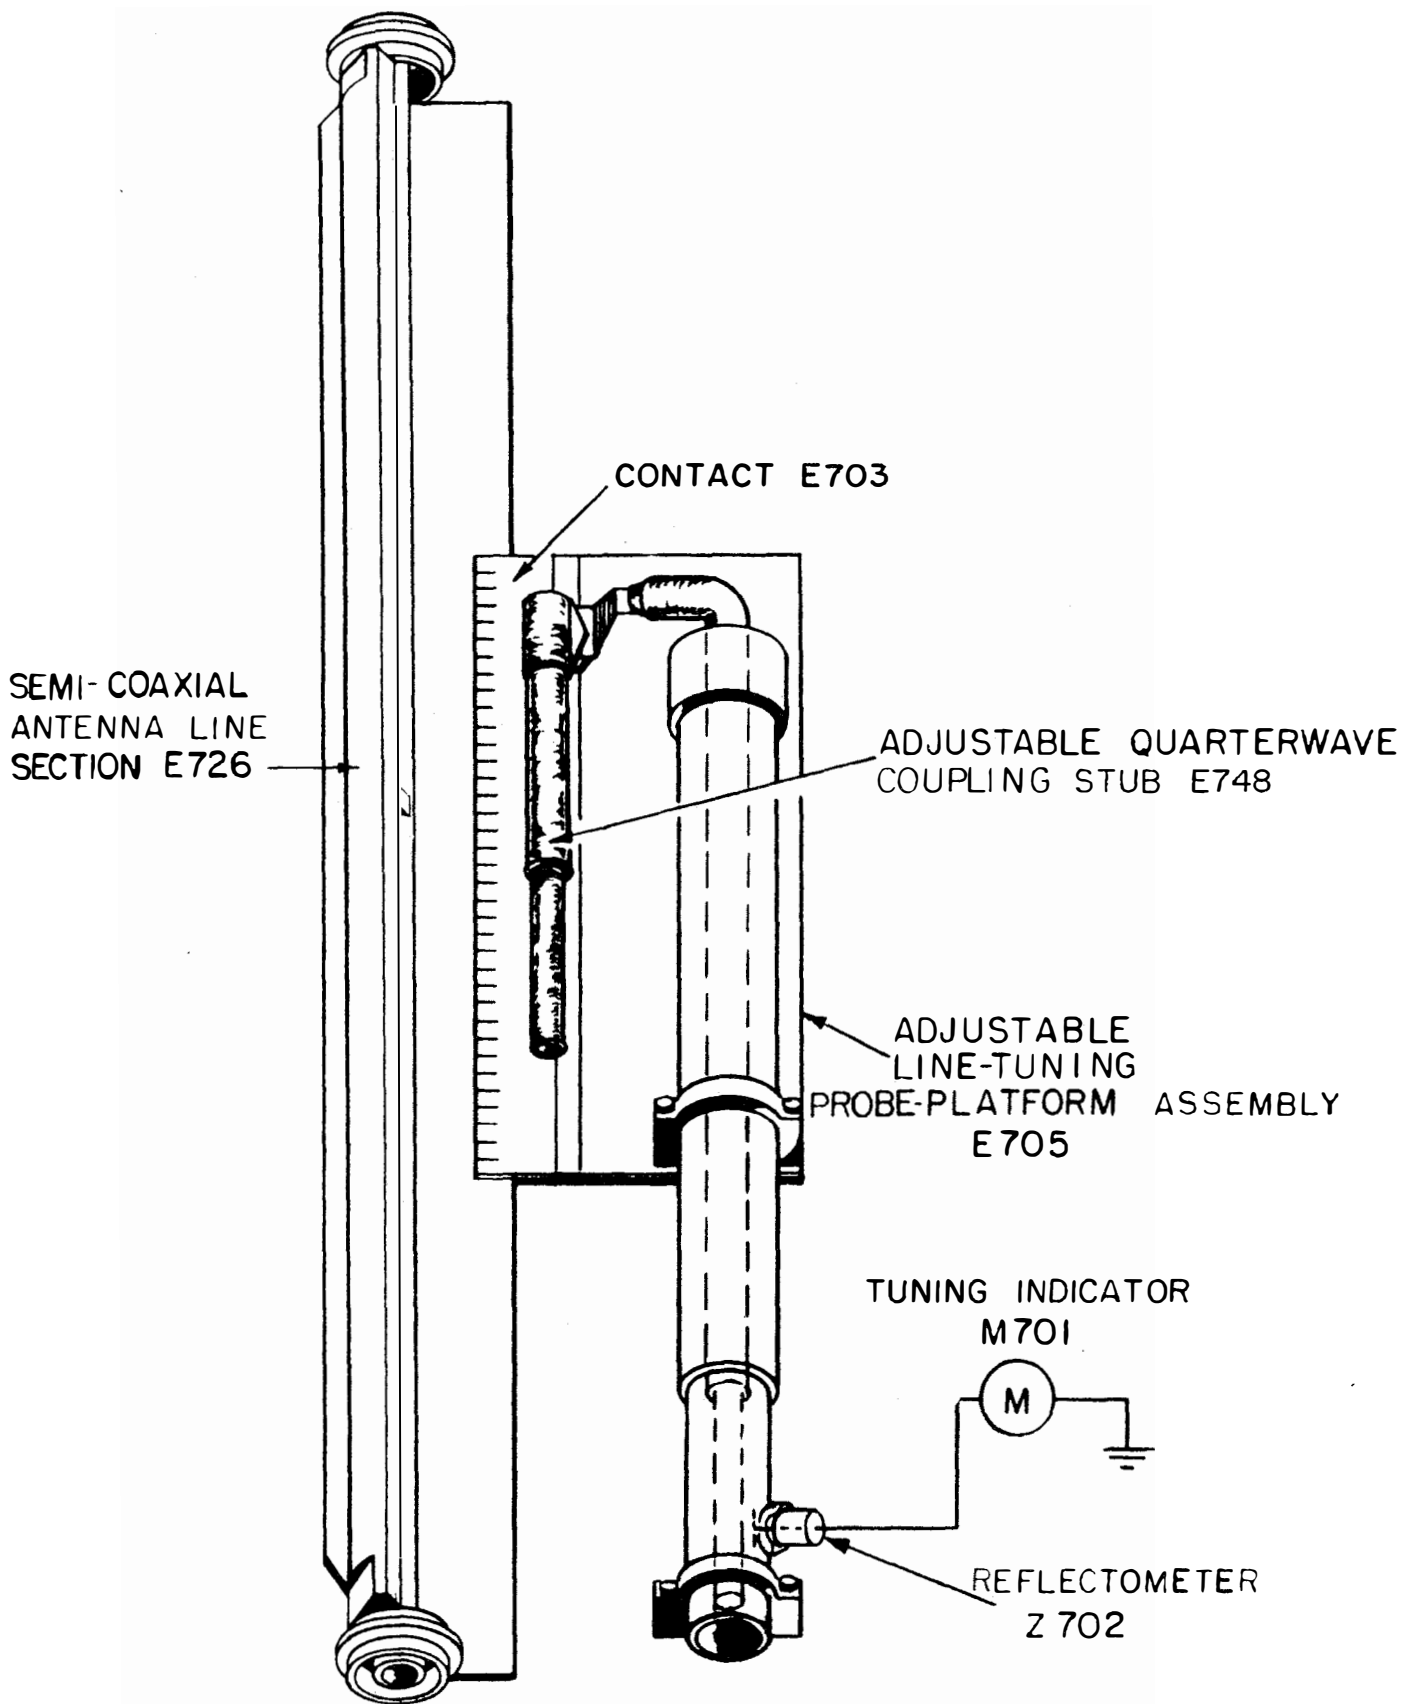

Figure 2-5. Relationship of Probe-Platform and Antenna Transmission Line
d. CONTACT SPRING.--The platform serves as a ground for rf in the coupling circuit and hence must make positive electrical contact with the outer conductor of the cutaway Line. This is accomplished by means of a Contact Spring E703 which is mounted along one side of the Platform and makes contact with the apron extension of the Antenna Transmission Line. See figure 2-5. This spring is specially designed to produce sufficient contact pressure on the apron to give a low-resistance contact without over-burdening the Tuning Head.
When the coupler is used for transmission, energy in the 230 to 390 mc band is fed into the unit through a 50-ohm coaxial cable which attaches to a fitting at the lower end of the unit. This energy is then conducted through the Transmitter-Receiver feedline to the feedpoint on the Quarter-wave Coupling element; the latter is adjustable to a quarter-wavelength at any frequency between 230 to 390 mc and is grounded at one end to a movable platform. This platform carries the Quarter-wave Element along a section of the cutaway Antenna Transmission Line. The inner conductor and the Quarter-wave Element are parallel and spaced a short distance apart. See figure 2-5.